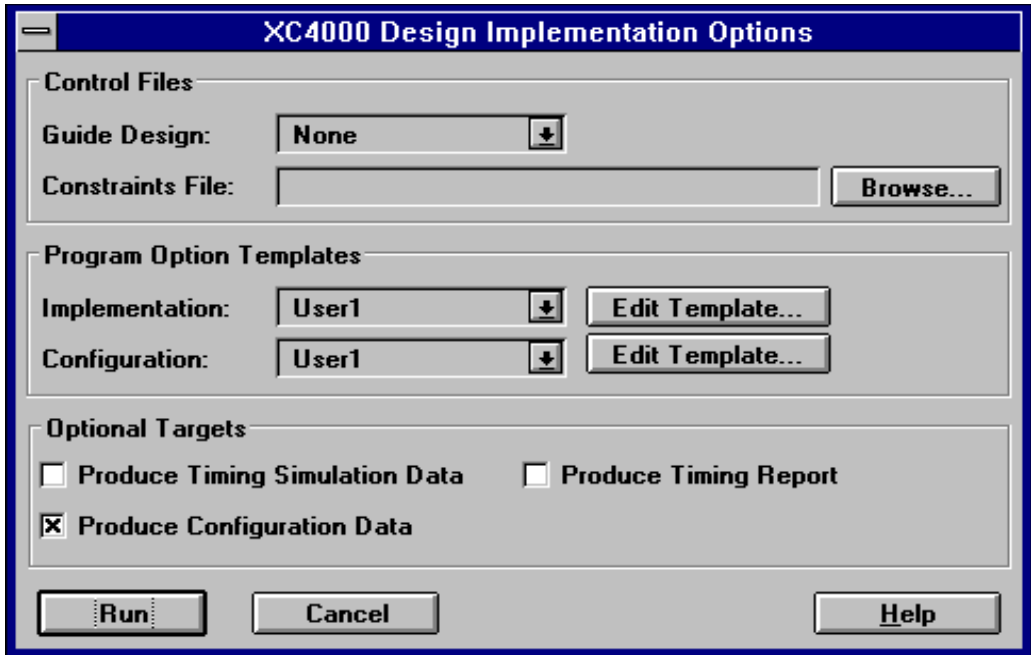

Figure 3-11 Design Implementation Options Dialog Box
1. Open the Design Implementation Options dialog box (see Figure 3-11) using one of the following methods: